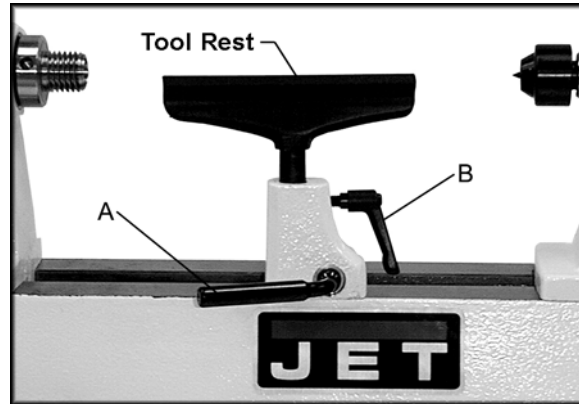

Figure 8
**Tool Rest** (Figure 8) - attaches to the bed. Used to steady cutting tool during spindle turning or face plate operations.
Position the tool rest base on the bed by releasing the lock handle (A, Figure 8) and sliding onto the desired position. Tighten handle (A, Figure 8) to lock. Adjust the height of the tool rest by loosening handle (B, Figure 8) and raising or lowering tool rest (Figure 8).
NOTE: The lock levers (B, Figure 8) are spring loaded. Simply pull up on the lever, rotate it on the pin, then release.